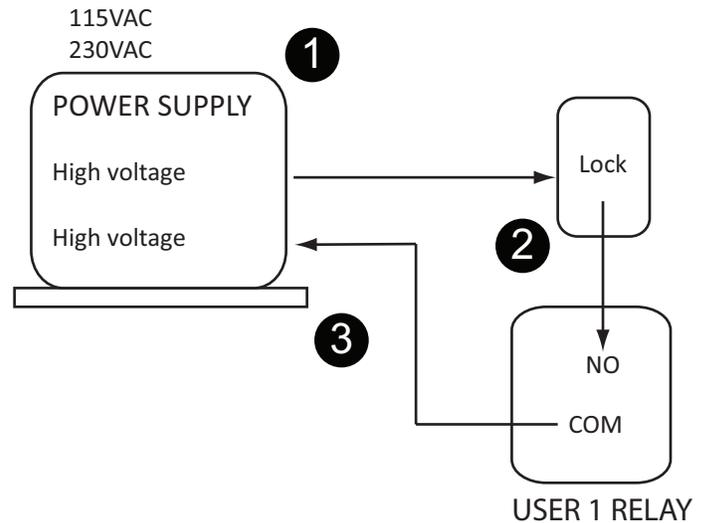

Figure 67. Lock Installation- High Voltage
1. Connect one lead of the power supply to one lead of the lock's coil. See Figure 67.